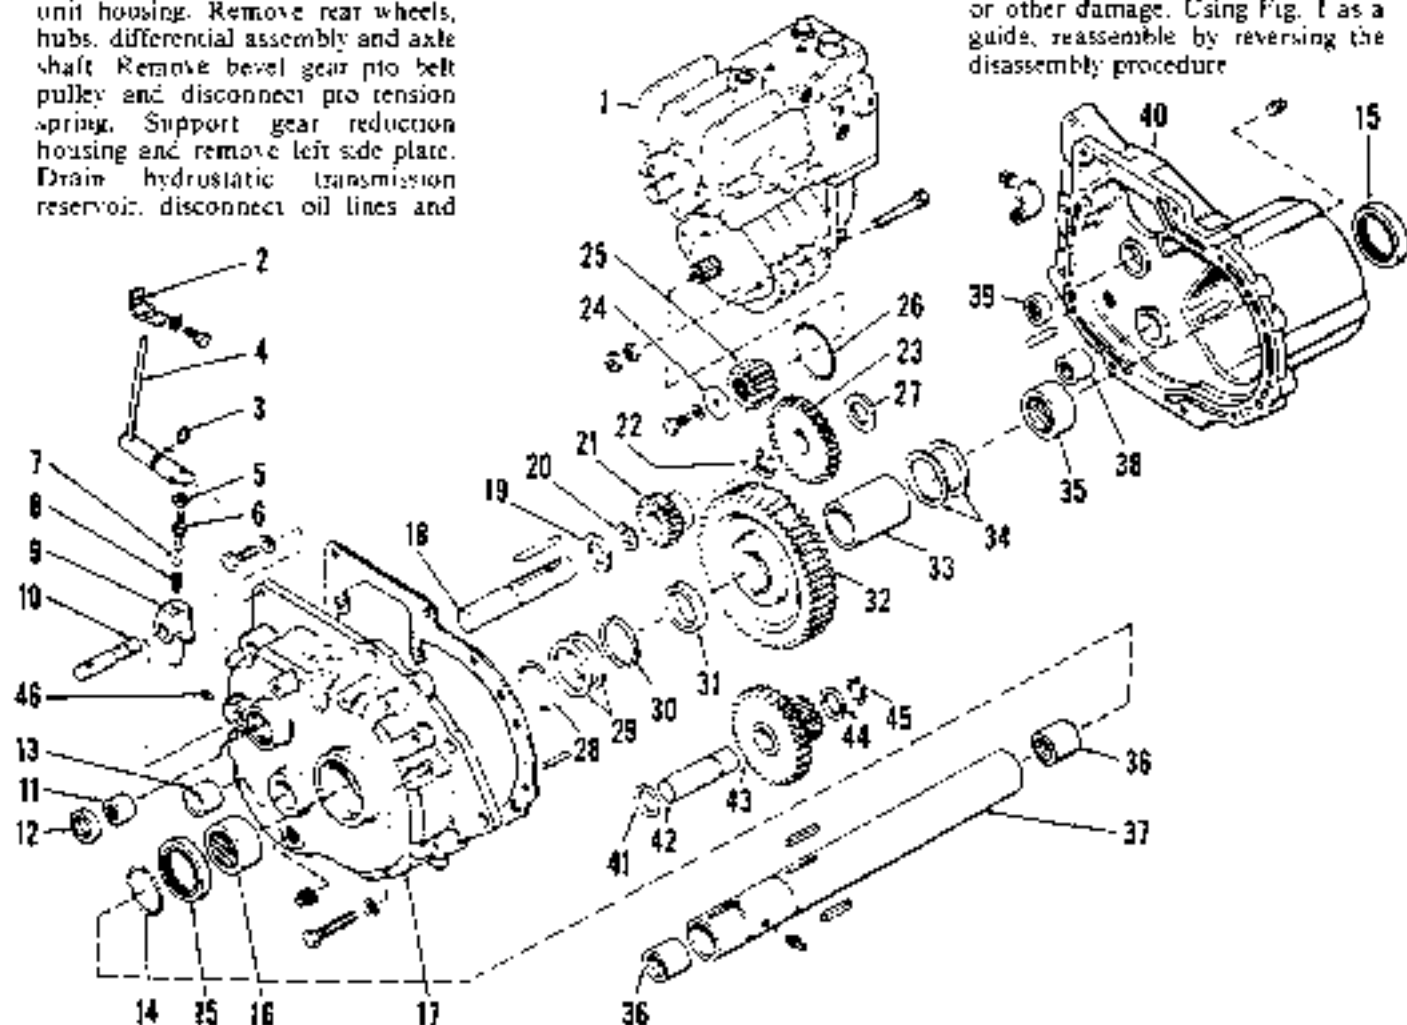

Fig. 1—Exploded view of gear reduction unit used on models equipped with hydrostatic transmission.
keyed end of axle tube (37—Fig. 1). Unbolt and remove cover (40) from case (17). Remove washer (27) and first reduction gear (23). Remove snap ring (14), then withdraw output gear and axle tube assembly (28 thru 37). Remove second reduction gear and shaft assembly (41 thru 45). Loosen set screw (46) and remove as a unit, the shift fork and rail assembly (7 thru 10) and the brake shaft assembly (18 thru 22). Use caution when removing shift rail (10) from shift fork (9) as popper ball and spring (7 and 8) will be released. Loosen locknut (5), remove shifter stem (6) and withdraw shift lever (4). Oil seals and needle bearings can now be removed from case and cover as required.
Clean and inspect all parts and renew any showing excessive wear or other damage. Using Fig. 1 as a guide, reassemble by reversing the disassembly procedure.